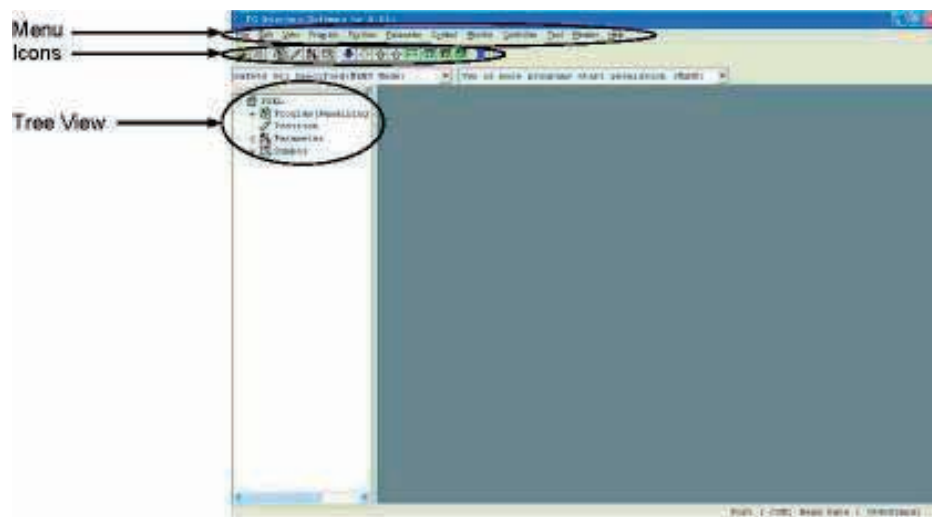

Fig. 3.8 Online Screen (PSEL Controller)
When this software has been started, the main window in Fig. 3.8 will open showing the menu items with icons on the tool bar in the case of the PSEL controller. The tree view appearing on the left side of the window can be displayed by clicking **View (V)** from the menu bar and then selecting **Tree View (T)**. (Initial window: Main menu)